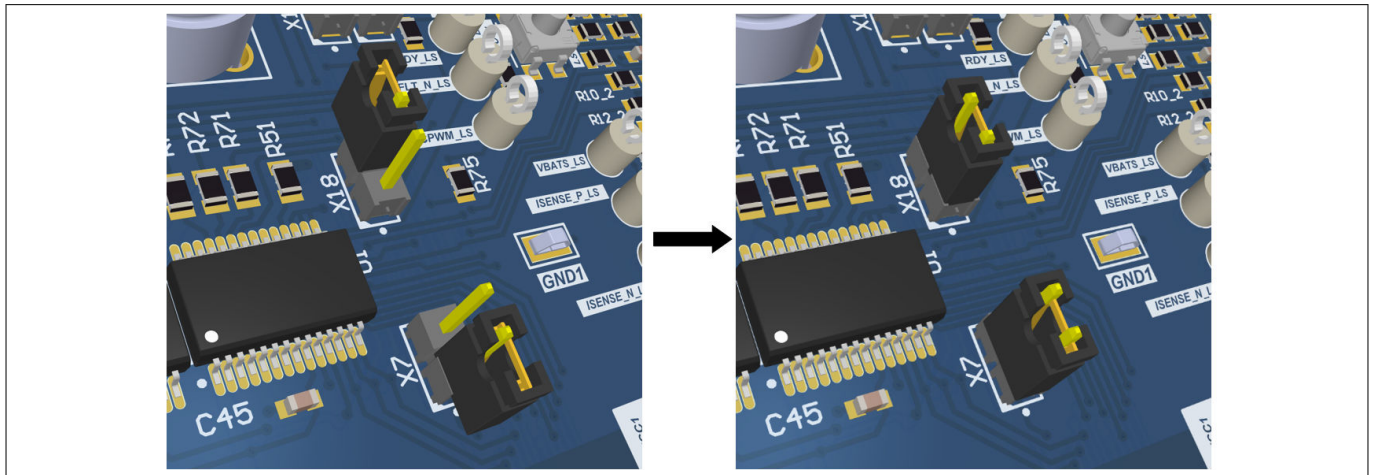

Figure 6 Jumper X7 and X18 connection
1. Place the jumpers X7 and X18 to enable the hardware interlock and the shoot-through protection. See Figure 6. For further details about jumpers, refer to Chapter 3.5